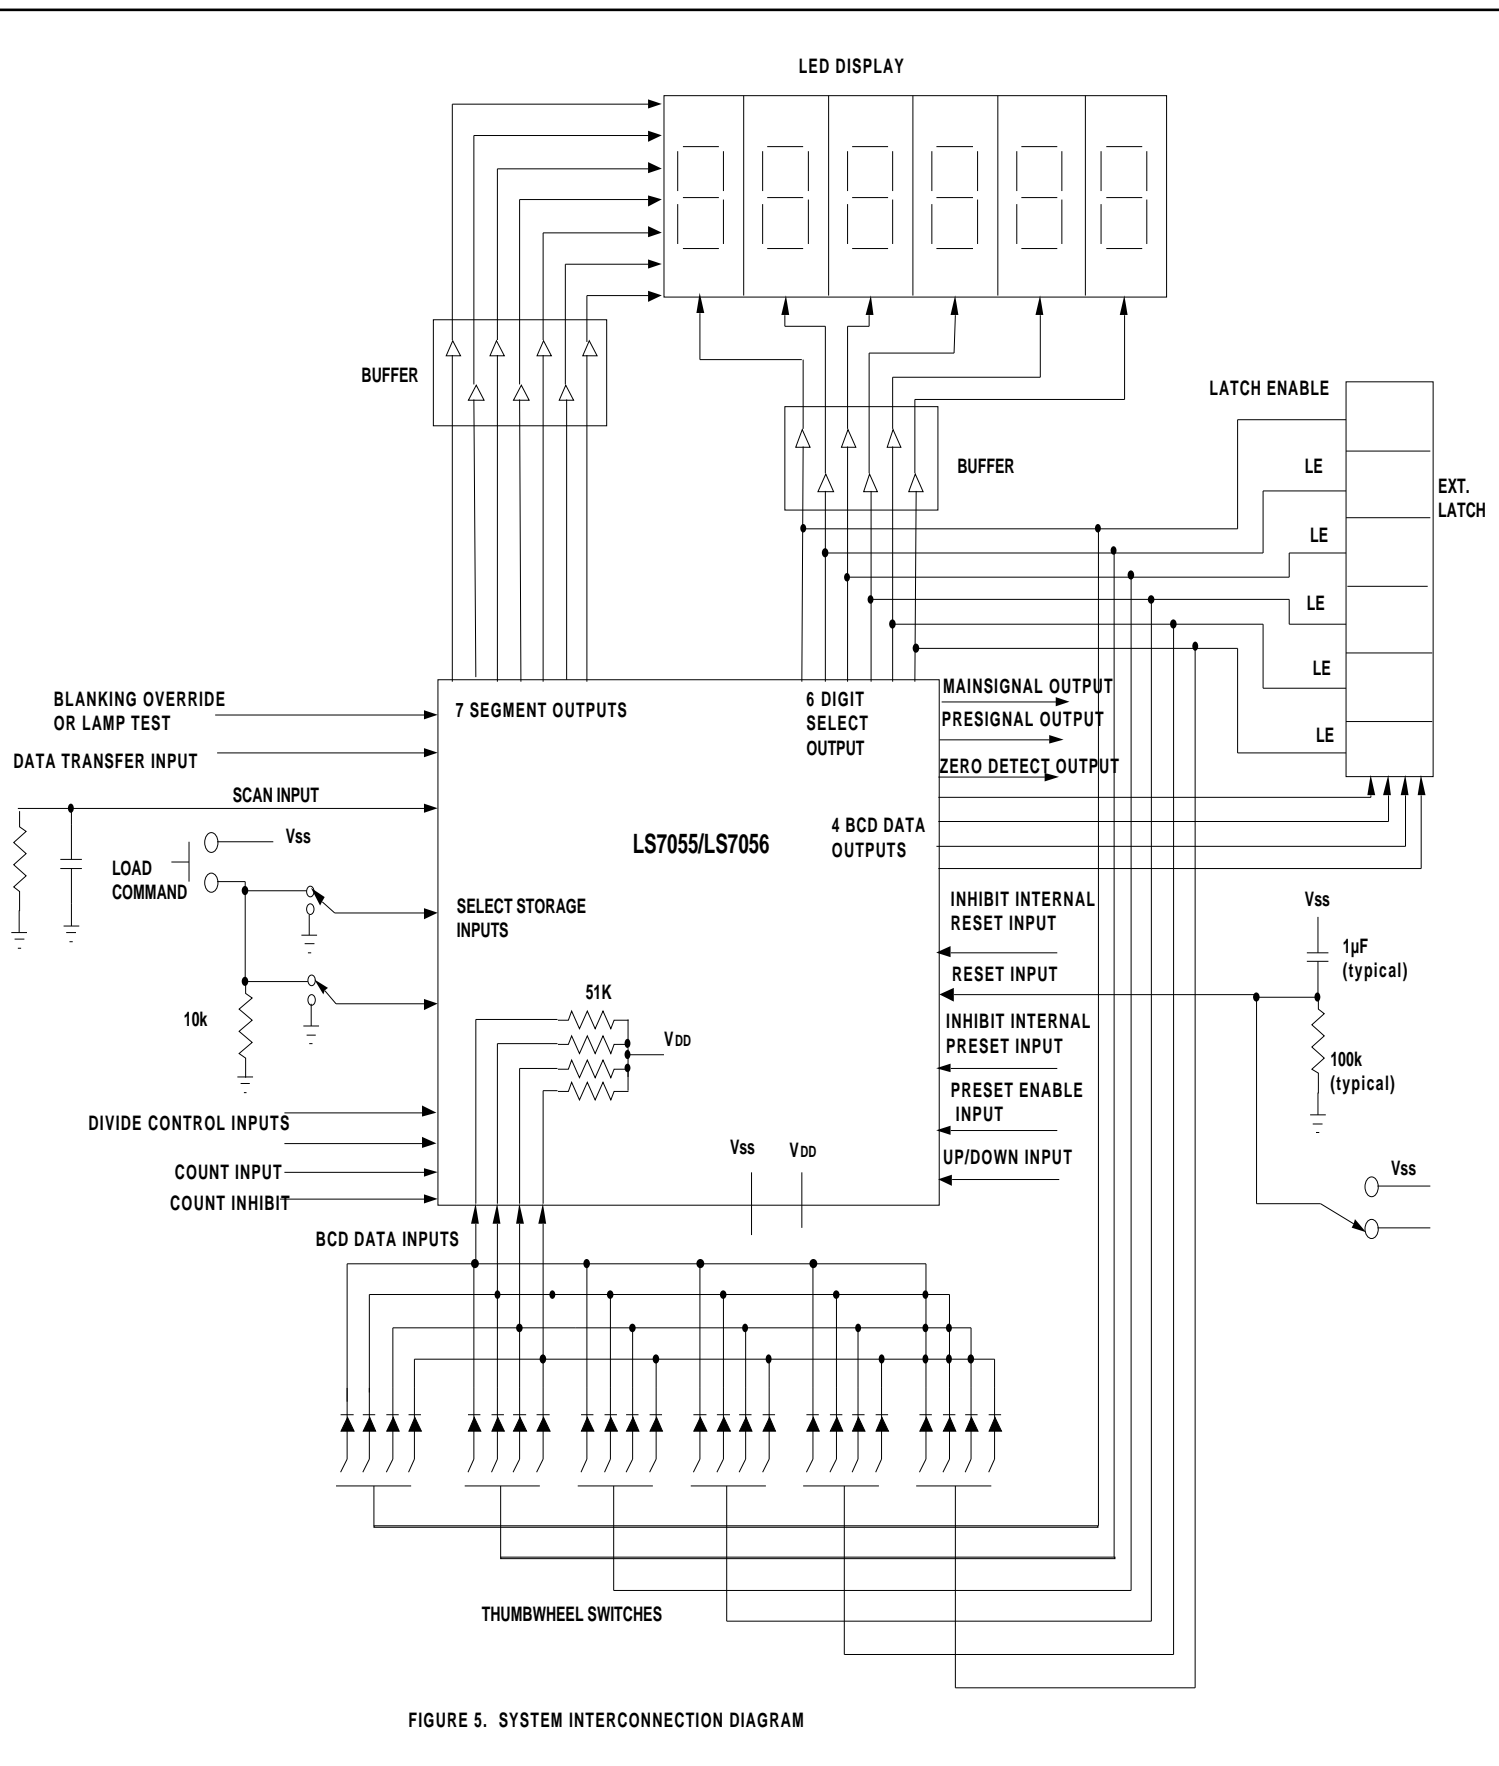

FIGURE 5. SYSTEM INTERCONNECTION DIAGRAM
* BCD data input assumed to be applied from a set of thumbwheel switches as shown in Figure 5.